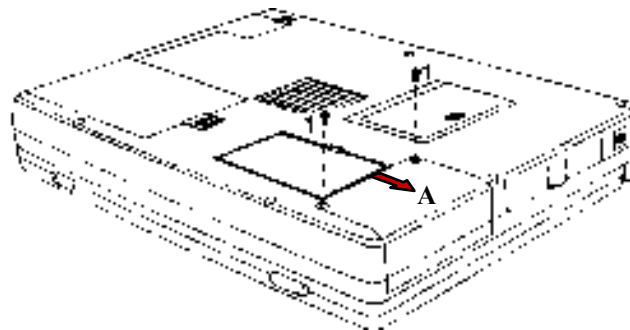

FIGURE 7-7. HARD DISK DISASSEMBLY/REASSEMBLY
2. REMOVE THE TWO SCREWS (FIGURE 7-7 #1) FROM THE HARD DISK ACCESS COVER.
3. REMOVE THE ACCESS COVER BY PRESSING IN THE COVER SIDE (FIGURE 7-7 ARROW A).
3. REPLACE THE ACCESS COVER AND SECURE WITH TWO SCREWS (FIGURE 7-7 #1).